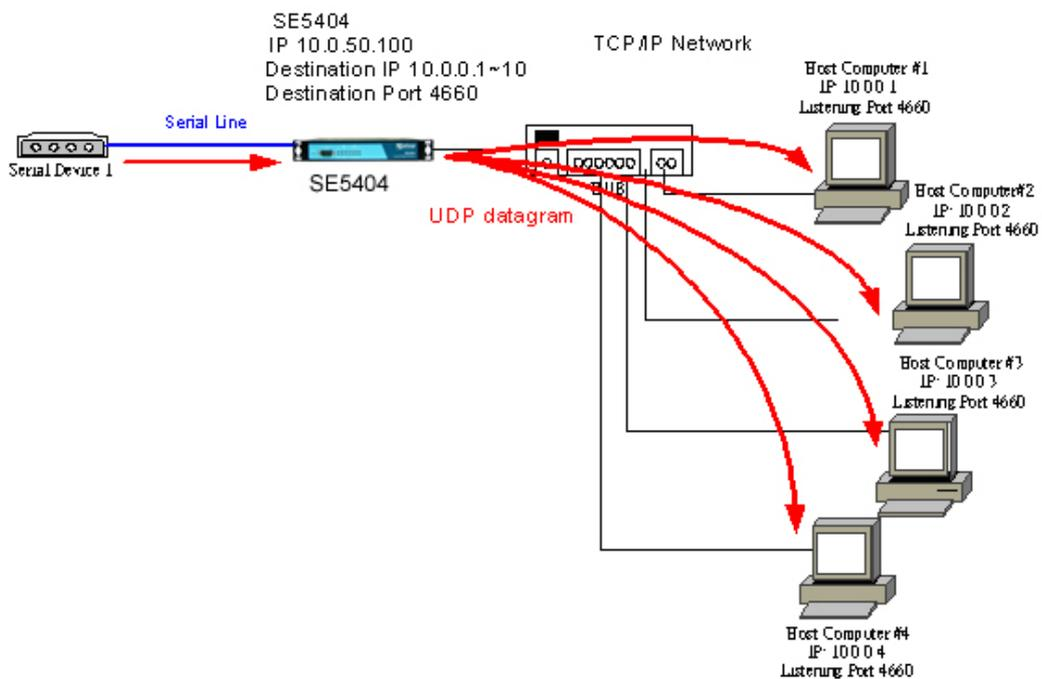

Figure 3.26 Data Transmission in a UDP Master(Client) Mode
1. **Master (Client) Mode** : To establish a connection using unicast data from the serial device to one or multiple host computer(Figure 3.26).